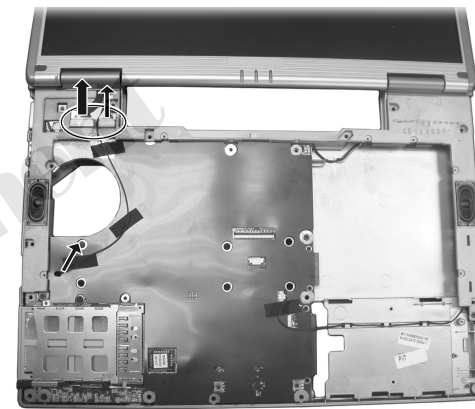

Figure 2-17 Disconnect the two cables and separate the antenna
5. Separate the antenna and disconnect the two cables from the system board. (Figure 2-17)